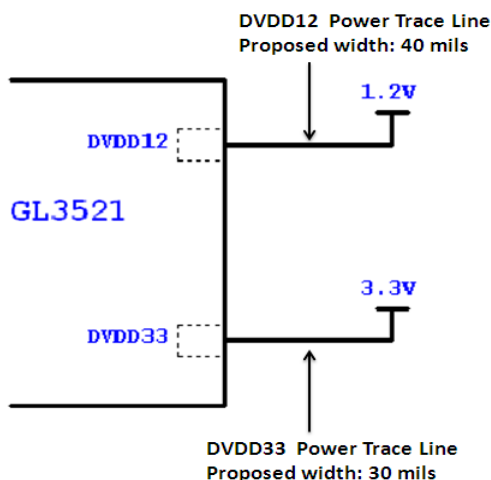

Figure 2.21
2. The layout trace diagram of 1.2V or 3.3V power trace is described as **Fig. 2.21**. The width of DVDD12 power trace line is recommended to be 40 mils, and the width of DVDD33 power trace line is to be 30 mils.